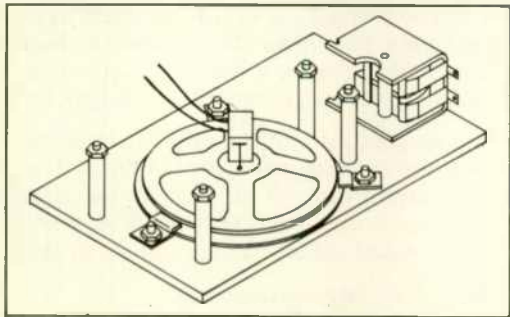

FIG. NO. 4
- () 6. Push screws through holes from rough side of mounting board. Place fibre spacers over screws. Mount tuning capacitor over fibre spacers and tighten screws. Rotate shaft to close plates to avoid damage. *See Fig. No. 4.* The mounting board assembly is now complete.